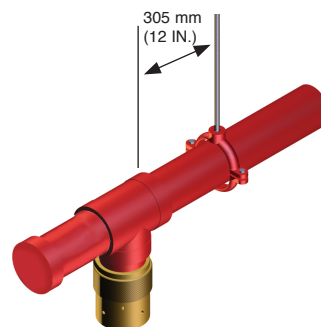

FIGURE 6-8
- Hangers must be placed within 300 mm (12 in.) of the discharge nozzle. See Figure 6-8.